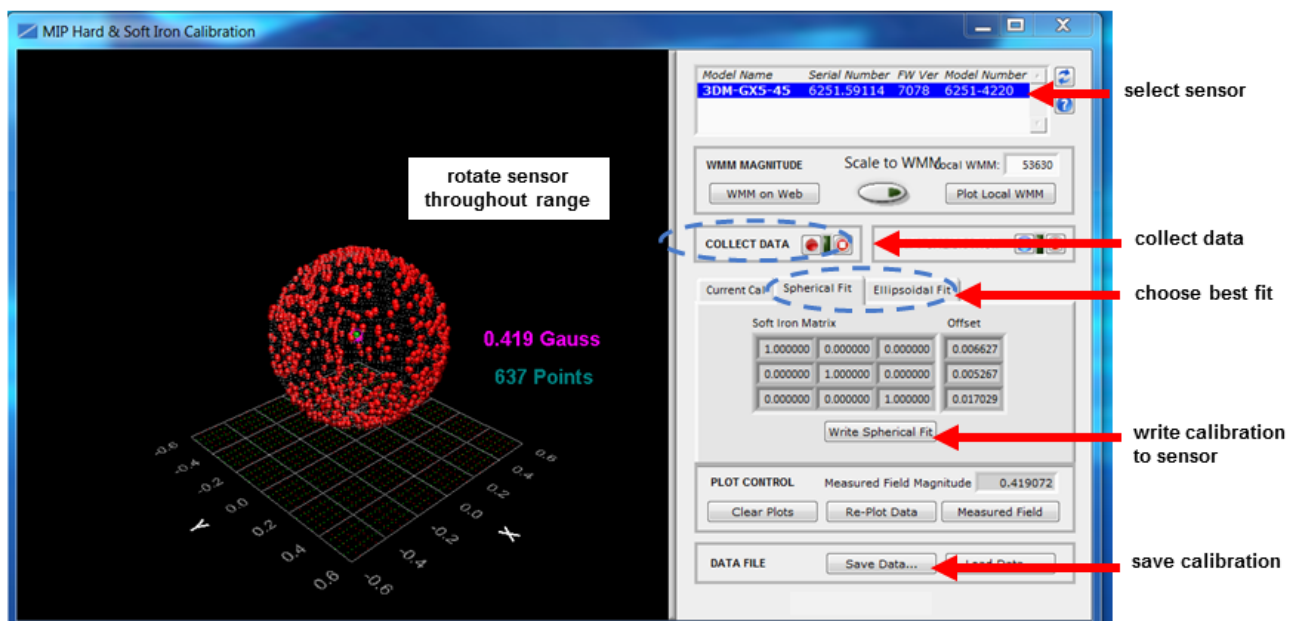

Figure 28 - Collect Calibration Data
- Select the Arm Recording button next to Collect Data (*Figure 28 - Collect Calibration Data*). The software will begin taking readings, as indicated by the points counter in the graphing window. The maximum number of points is 1000, however 100 is usually adequate. As the readings are taken, rotate the sensor or sensor platform in all possible directions to get a complete profile of the baseline magnetic influences throughout the sensor frame. Data points will appear on the graph in red. For mobile sensor platforms, such as ground vehicles, move the platform as much as possible to simulate actual use without exposing it to excessive magnetic sources (such as driving over railroad tracks or near steel pilings). The intention is to get a baseline of the platform in a neutral environment that still accounts for the platform itself in all orientations. For stationary platforms the baseline may include significant magnetic influences that will be present during operation.
- When all possible rotations are completed, select "Stop Streaming" next to Collect Data, and then select Save Data to save the calibration data points on the host computer (*Figure 28 - Collect Calibration Data*).